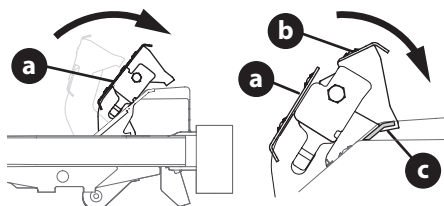

Figure 17
1. Push the brake pedal (a) all the way forward (Figure 17).